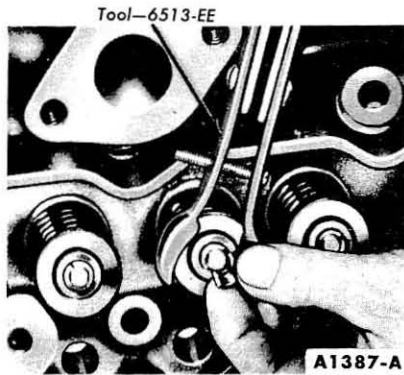

FIG. 29—Compressing Valve Spring
2. Compress the valve springs (Fig. 29). Remove the valve retainer locks and release the spring. If the valve locks are stuck, place a piece of steel tubing (3/4-inch OD, 1/2-inch ID and 3-inches long) over the end of the valve stem squarely against the sleeve surface. Tap the tube with a steel hammer to dislodge the locks.
4. Compress the spring and install the retainer locks (Fig. 29).